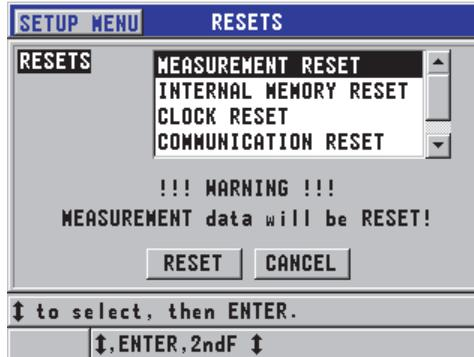

Figure 12-1 Activating a reset function
2. In the **RESETS** screen (see Figure 12-1 on page 197):